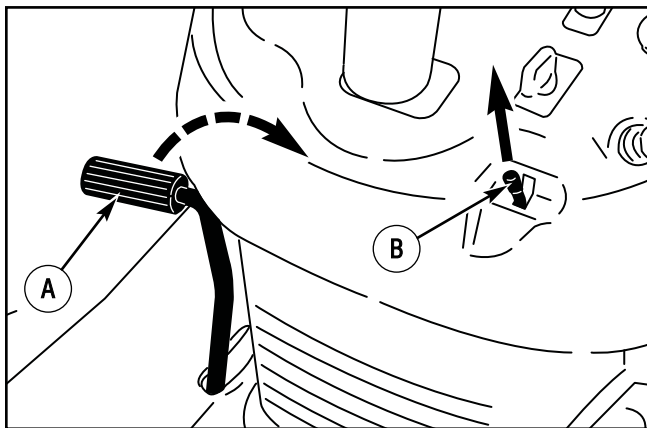

Figure 14: Parking brake
2. Lift the **parking brake lever** (Figure 14).